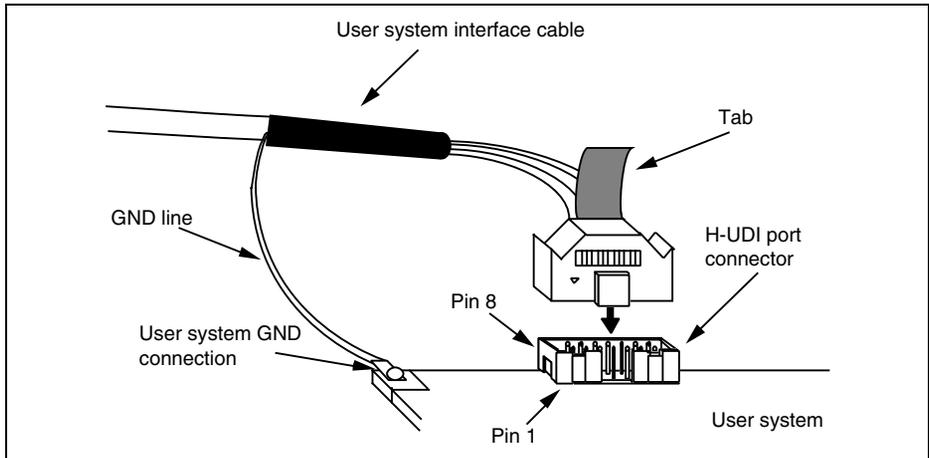

Figure 3.4 Connecting the User System Interface Cable to the User System when the 14-pin Straight Type Connector is Used
(2) Note that the TDO signal of the user system interface cable connector must be connected to the TDI pin of the H-UDI port connector and the TDI signal of the user system interface cable connector must be connected to the TDO pin of the H-UDI port connector. The pin arrangement of the H-UDI port connector is shown in section 1.4 in the additional document, Specific Guide for the SHxxxx E10A Emulator.
- (3) Figure 3.4 shows how to connect the user system interface cable to the user system when the 14-pin straight type connector is used. Connect the ground line of the cable to the user system ground. The end of the ground line has a hole having a diameter of 3 mm, and therefore, when the ground line is screwed to the user system, the screw diameter must be 3 mm.